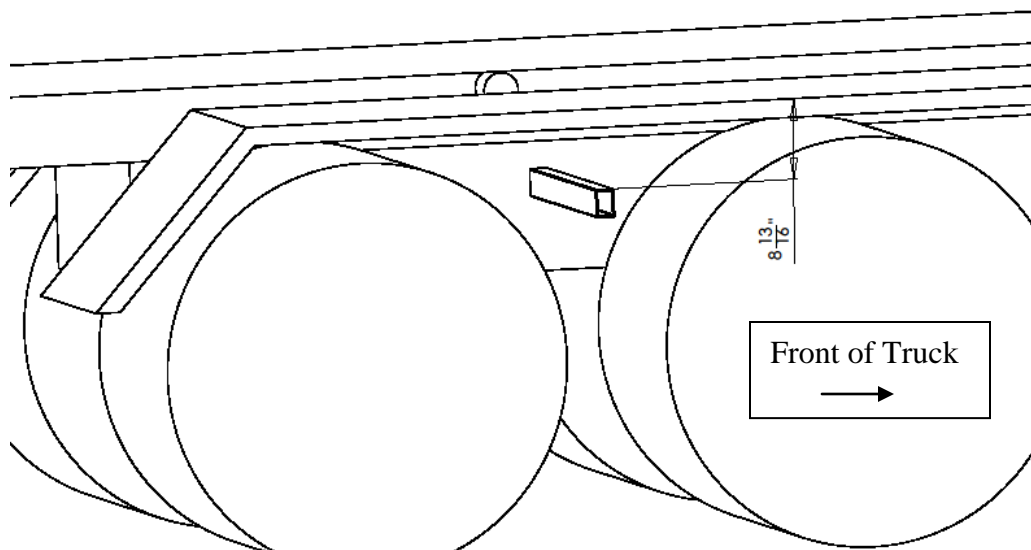

**Figure 3**
- 3) Measure from the first mark to the second mark, divide that measurement in half and make a mark. This is where the pivot point of the system will be. (Refer to Fig. 3)